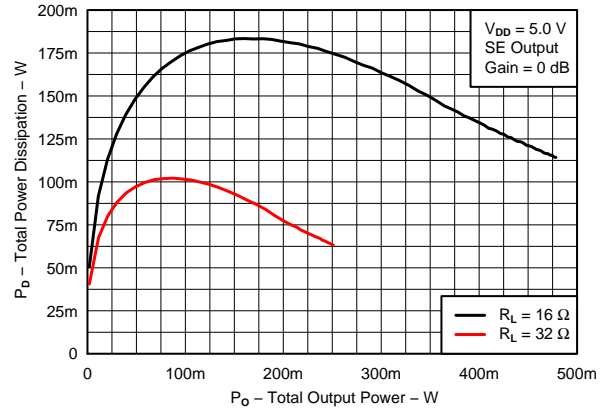

Figure 13.
| P_D | Total power dissipation (SE) | vs Total output power | Figure 13 |